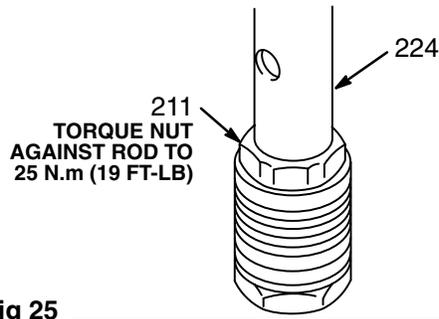

Fig 25 0083
- 4 Torque the nut (211) against the rod (224) to 25 N.m (19 ft-lb). Use two wrenches to maintain the alignment as mentioned in the **NOTE**. See Fig 25.